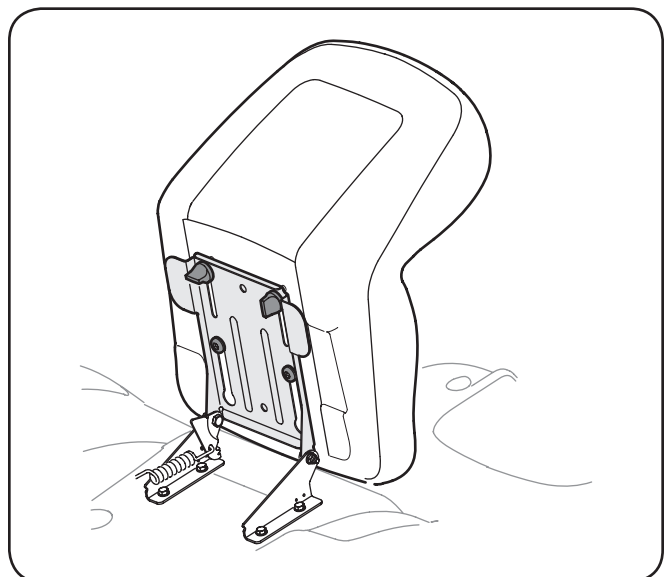
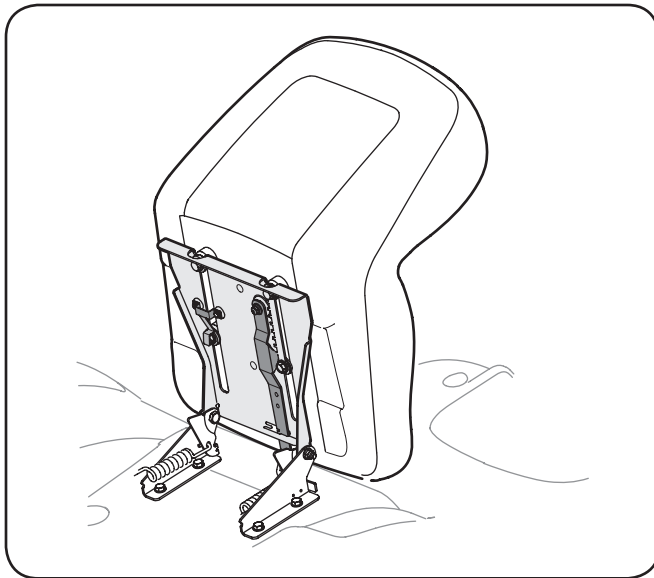

Figure 3-5
Figure 3-6
If the seat for your tractor was not attached at the factory, refer to Fig. 3-4, Fig. 3-5, and Fig. 3-6 to identify your tractor’s seat style and follow the applicable instructions below to attach it.
1. Position the shoulder screws (found on the base of the seat) inside the slot openings in the seat pivot bracket. See Fig. 3-5.
- Select desired position for the seat, and secure with the two knobs removed earlier. See Fig. 3-5.
NOTE: If your seat was shipped mounted backwards on the seat pivot bracket, pull out the tab found on the seat stop and hold it open while sliding the seat off the seat pivot bracket. See Fig. 3-6.
- Slide seat in until front seat spacer engages the seat stop. See Fig. 3-6.